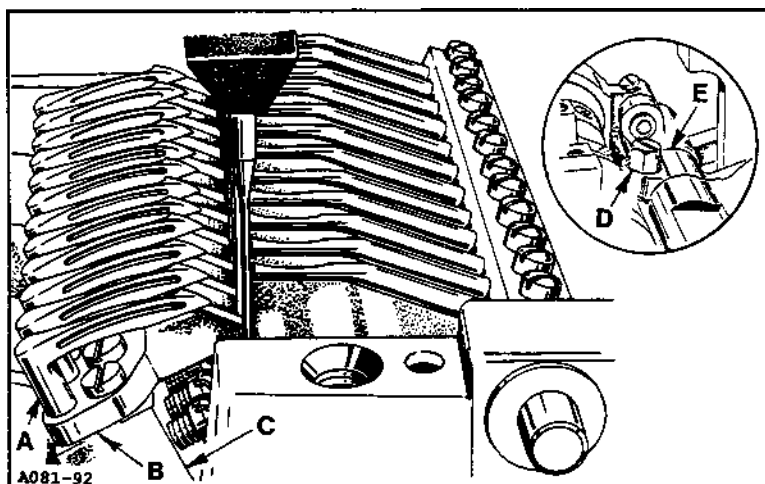

Fig. 6
Starting from the extreme right with the looper point facing the operator insert looper (A, Fig. 6) through the back of needle guard (B) and as far down as it will go into looper holder frame (C). Repeat the above with the looser and needle guard on the extreme left.
Move the needle guard to the side so the needle will not strike it. Turn the handwheel in operating direction until the looper holder frame has travelled fully to the rear. At this time the distance between the centerline of the needles and the points of the loopers should be $1/8"$ (3.2mm). If adjustment is necessary loosen hexagon head clamp screw (D, Fig. 6 Inset) at the right end of looper holder driving arm (E) and move forward or backward as required. Tighten screw (D) and recheck settings.